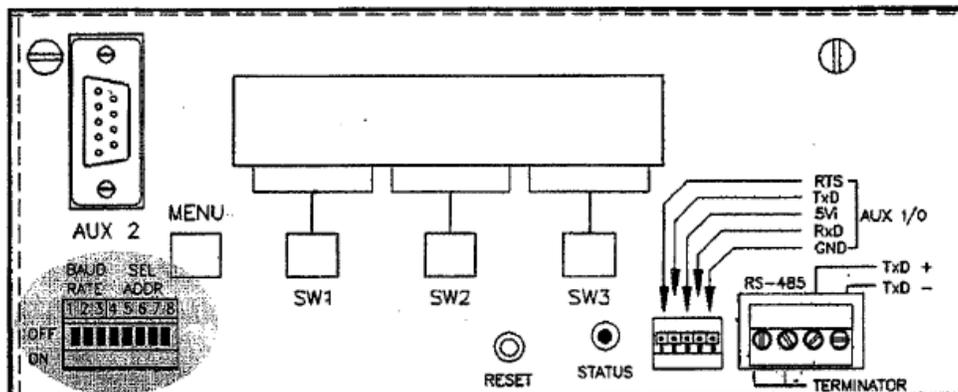

Figure 7.1 Serial Communication Parameter Selection Switch.
The DXt-40-HTU is equipped with a variety of standard and optional serial output formats that are selected using a series of DIP switches (Figure 7-1). DIP switch positions 1, 2, and 3 (Table 7-1) allow four format choices; continuous output, terminal/computer interface, and MODBUS RTU. Allen-Bradley Remote I/O is, available as an option, but requires different documentation (see page 7-9). All types of DXt interfacing will be discussed in the following paragraphs. Positions 4-7 designate transmitter address for applications requiring more than one DXt unit (Table 7-2). Switch position 8 is unused and should be left in the '0' (ON) position.